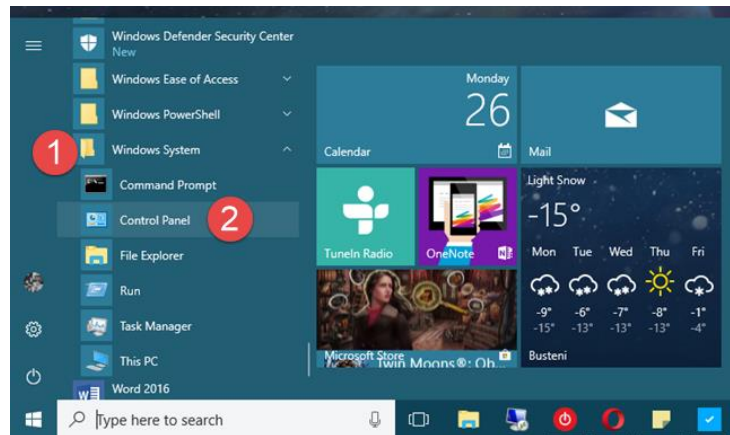

Figure 7: The Control Panel shortcut in Windows 10
A slightly slower way of starting the *Control Panel* in Windows 10 is to do it from the *Start Menu*. Click or tap on the 'Start' button and, in the *Start Menu*, scroll down to the *Windows System* folder (1). There you will find a 'Control Panel' shortcut (2) (fig.7):